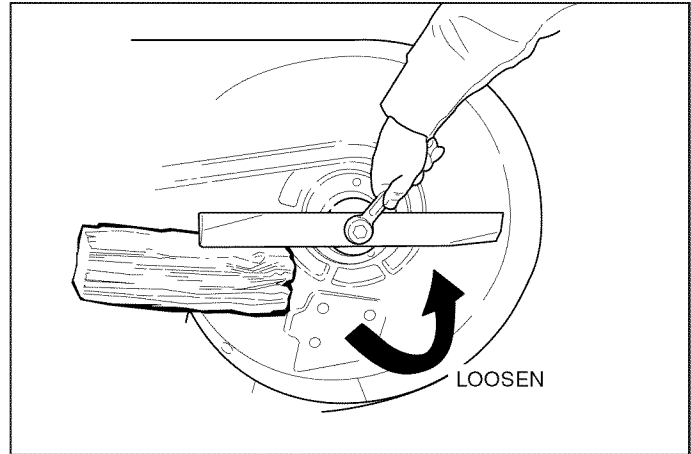

Figure 19. Blade Removal
2. See Figure 19. To remove blade for sharpening, use a block of wood to prevent blade rotation while loosening the capscrew.